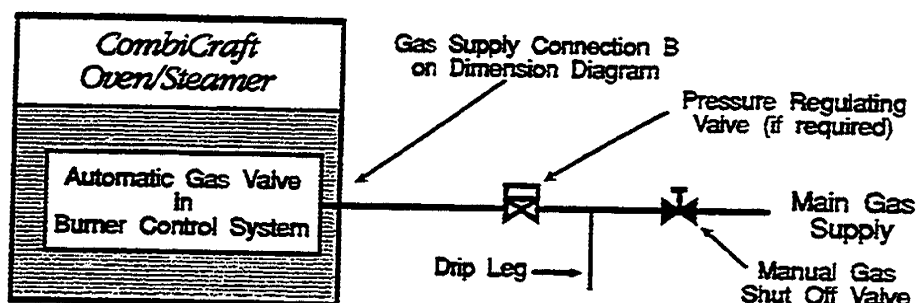

Figure 2-11. Recommended Gas Supply Line Layout
nection locations. Refer to Figure 2-11 for Cleveland Range recommended layout of the gas supply lines.
2. Refer to Figure 2-11, and set-up the CombiCraft automatic gas valve according to the test pressure being used. The same pressure criteria apply when testing lines prior to the manual gas shut-off valve.
3. Refer to Figure 2-11, and open the main shut-off valve for the oven/steamer gas supply line.